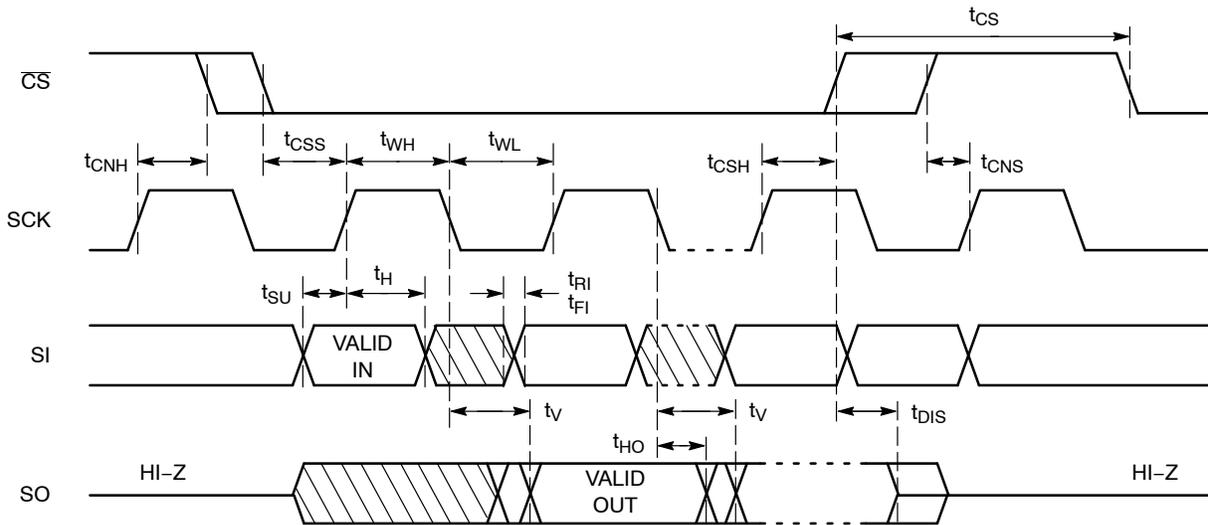

Figure 2. Synchronous Data Timing
8. **All Chip Select (CS) timing parameters are defined relative to the positive clock edge (Figure 2). t_{CSH} timing specification is valid for die revision E and higher. The die revision E is identified by letter "E" or a dedicated marking code on top of the package. For previous product revision (Rev. D) the t_{CSH} is defined relative to the negative clock edge.**
After a high to low transition on the \overline{CS} input pin, the CAT25640 will accept any one of the six instruction op-codes listed in Table 9 and will ignore all other possible 8-bit combinations. The communication protocol follows the timing from Figure 2.